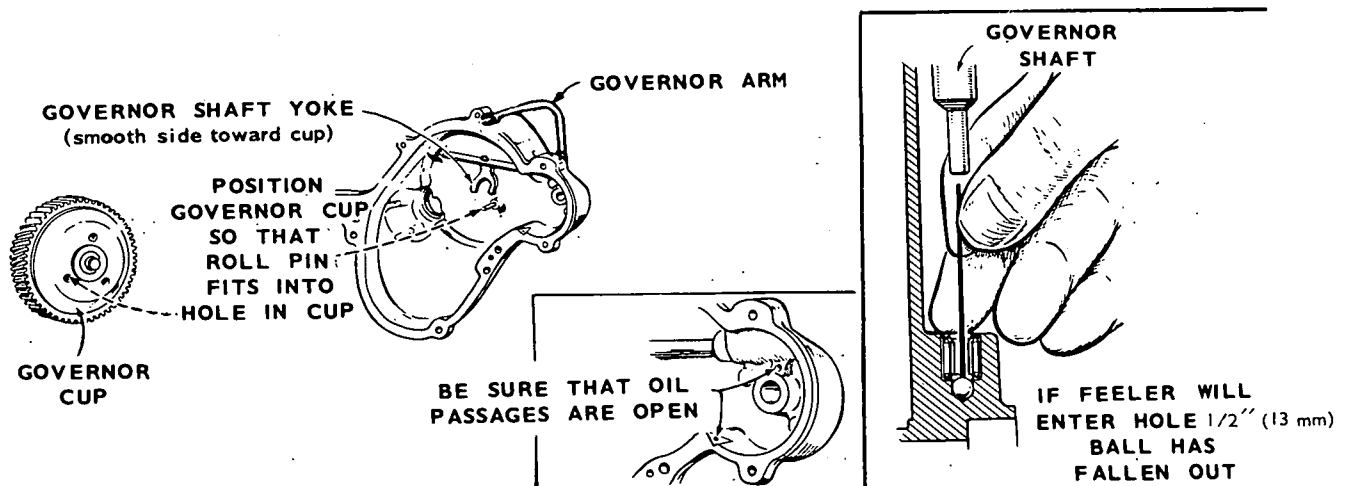

FIGURE 42. GEAR COVER
1. Work the governor shaft to check for binding and see that the governor-shaft-end-thrust ball is in place (Figure 42). Later models have a larger ball which will not fall out.